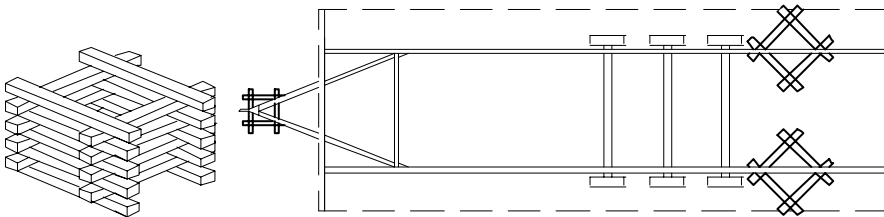

Figure 17. Stack 4" x 6" by 5' long timbers as shown to form safety timbers. Place safety timbers under home behind axle area and under hitch.
Manufactured homes weigh several tons. No one should be under the home (whether it is moving or stationary) unless proper cribbing is in place (**Figure 17**). Failure to utilize proper cribbing may result in serious injury or death.
- Make sure adequate safety cribbing (**Figure 17**) is in place whenever the home is placed on jacks.
2. **Install cribbing.** Install safety cribbing (**Figure 17**).